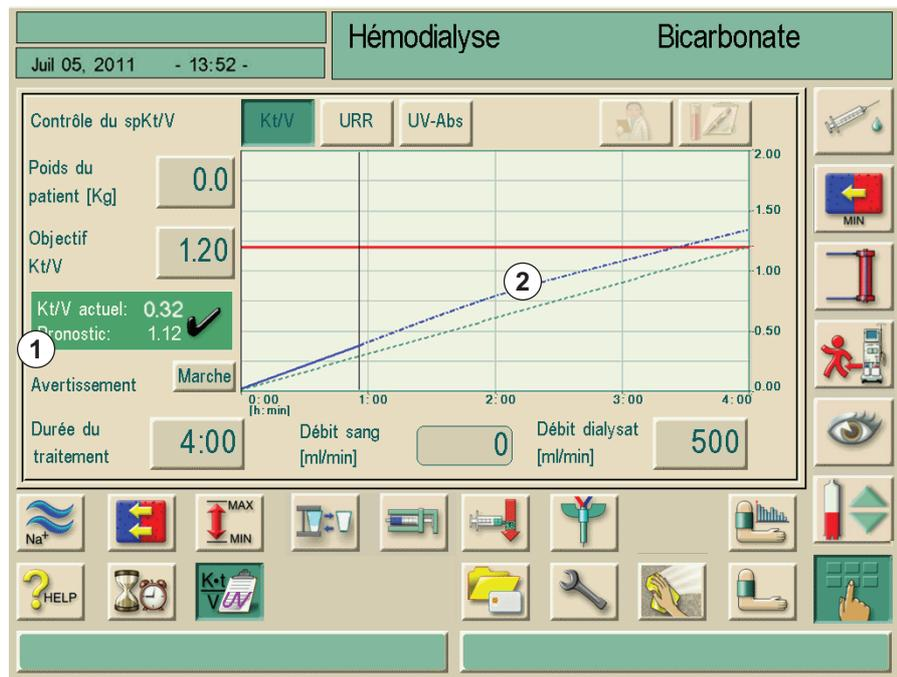

Fig. 11-16 Numerical and graphical display of the prognosis
In hemodialysis (HD) mode the user gets a “prognosis” of the estimated Kt/V value at the end of therapy. It is displayed numerically (Fig. 11-16, 1) and graphically (Fig. 11-16, 2). The blue actual progress line will be extended from the actual therapy status in order to predict the therapy progress.